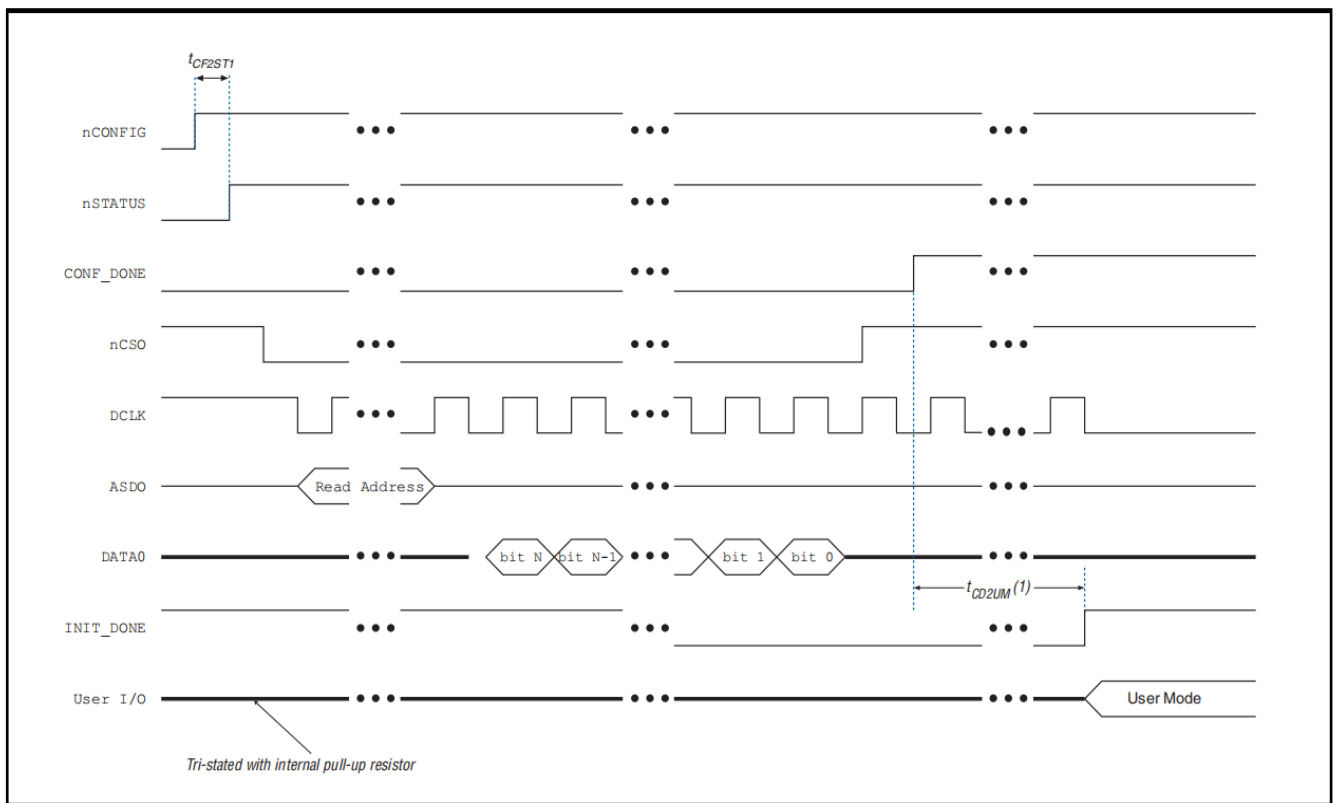

Figure 20. AS Configuration Timing Diagram
(1) t_{CD2UM} is an FPGA-dependent parameter. For more information, refer to the configuration chapter in the appropriate device handbook. For more information about the timing parameters in Figure 20, refer to the configuration chapter in the appropriate device handbook.